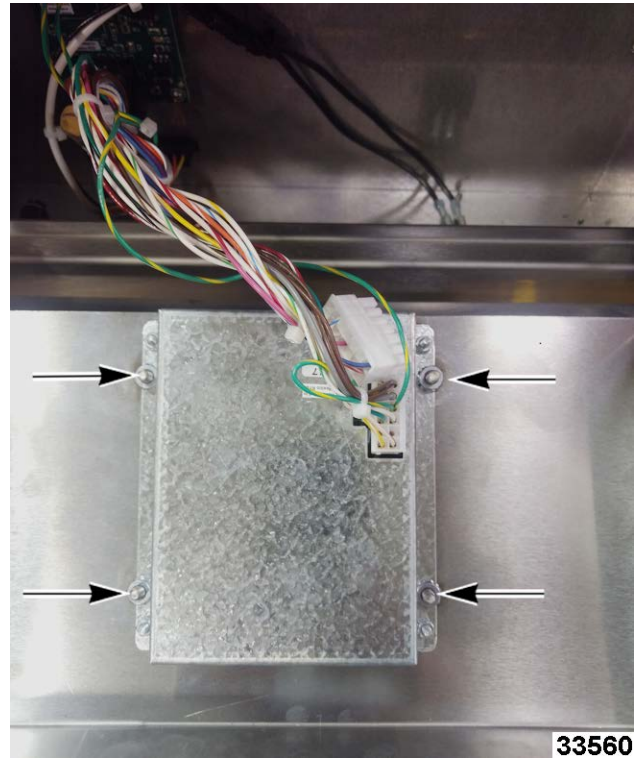

Fig. 7
3. Note and disconnect wire connections (Fig. 7) from back of control board.
4. Remove analog control board mounting nuts (Fig. 7).